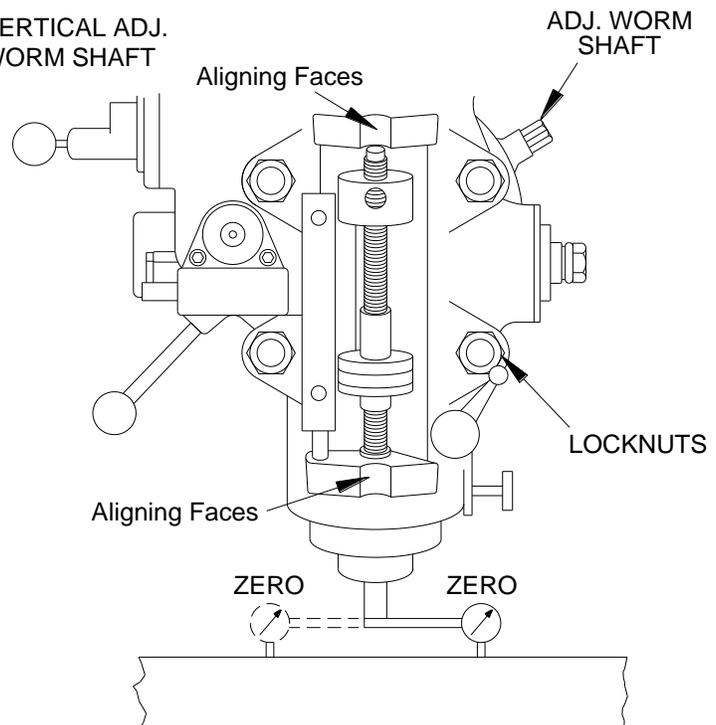

figure 2
5. Loosen the (4) locknuts in (fig. 2) but leave some drag on them for fine adjustment.